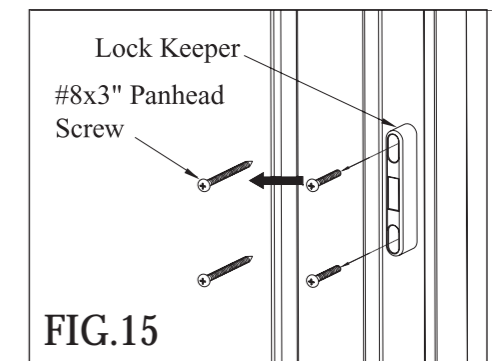

FIG. 15
12. Replace keeper screws by # 8x3 "panhead screws. (See Fig.15)